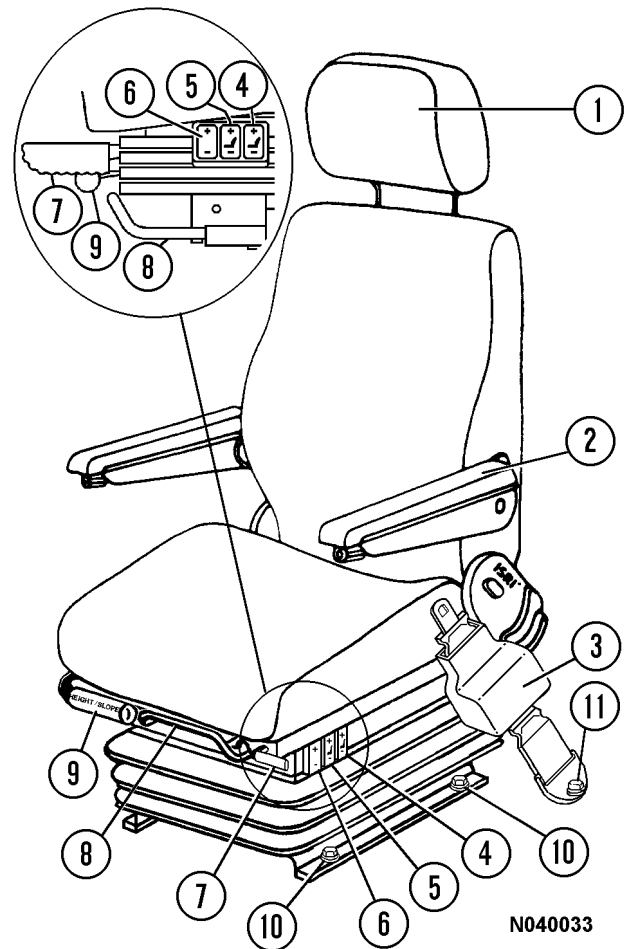

FIGURE 3-6. OPERATOR'S SEAT
1. **Headrest:** headrest (1, Figure 3-6) will move up, down, fore, or aft by moving headrest to desired position.
- 4 & 5. **Air Lumbar Support:** Each rocker switch (4 or 5) controls an air pillow. Switch (5) controls the lower air pillow and switch (4) controls the upper air pillow. To inflate, press on top of rocker switch and hold for desired support, then release. To deflate, press on bottom of rocker switch and hold for desired support, then release. Adjust each pillow for desired support.
6. **Seat Height:** Press rocker switch (6) on top to increase ride height. Press on lower part of rocker switch to lower ride height.
7. **Backrest:** Pull control (7) upward and hold, select backrest angle; release control handle.
- a. Raise adjustment lever (8).
- a. Front height and slope; lift control lever (9) and hold.
1. Remove capscrews (10, Figure 3-6) and hardware that secures the seat base to the riser. Remove capscrews (11) that secures tether to floor.
1. Mount seat assembly to seat riser. Install capscrews (10, Figure 3-6), lockwashers, flatwashers and nuts. Tighten capscrews to standard torque.
2. Fasten tether straps to floor with capscrews (11), flatwashers and lockwashers. Tighten capscrews to standard torque.